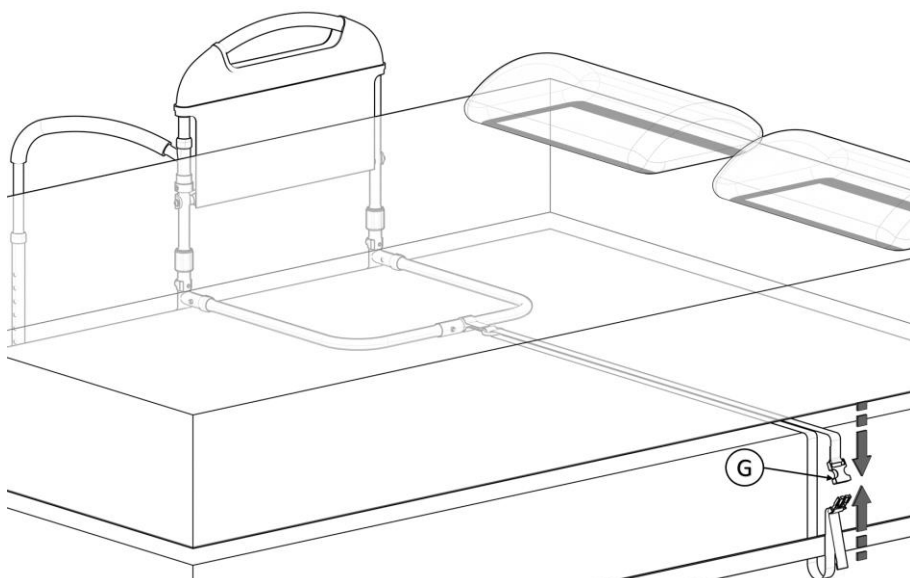

FIGURE 8
8. Loop SAFETY STRAP (G) around bed frame, re-buckle and tighten SAFETY STRAP to secure Bedrail product against side of the mattress as shown in *FIGURE 8*.